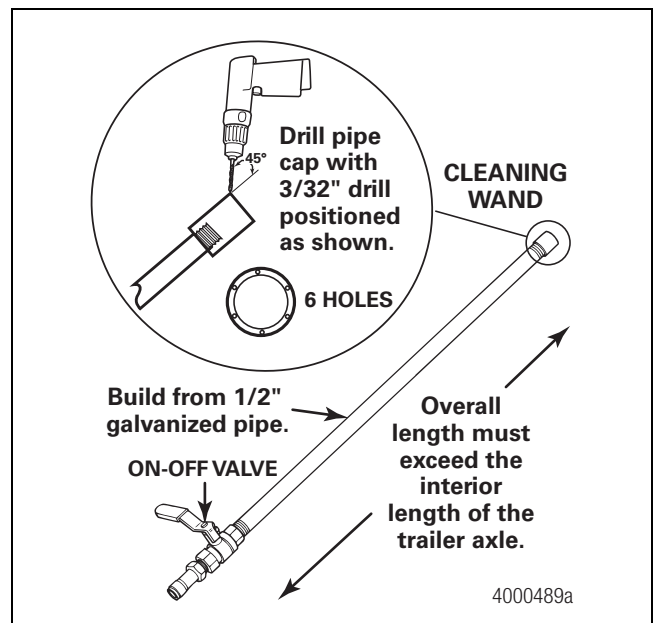
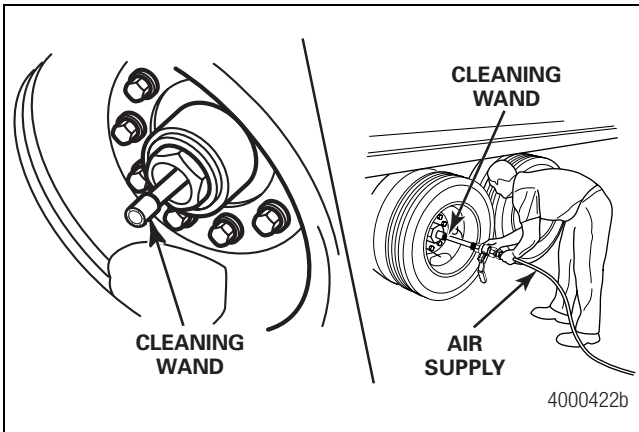

Figure 8
Figure 9
8. Connect a cleaning wand to a high-volume air supply. Refer to Figure 8 for information on building a cleaning wand. Figure 8. Slowly push the wand through the axle until it exits the opposite end. During this operation, a steady stream of air will flow from the opposing axle spindle. Figure 9.